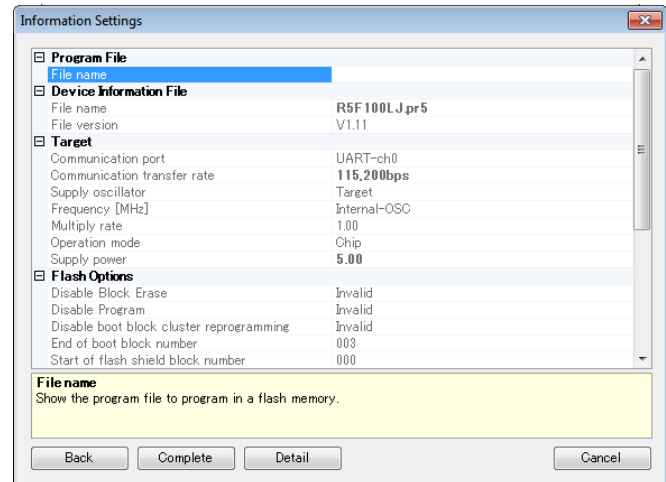

Figure 19. Information Settings
6. Check Information Settings and click **Complete** (See Figure 19).